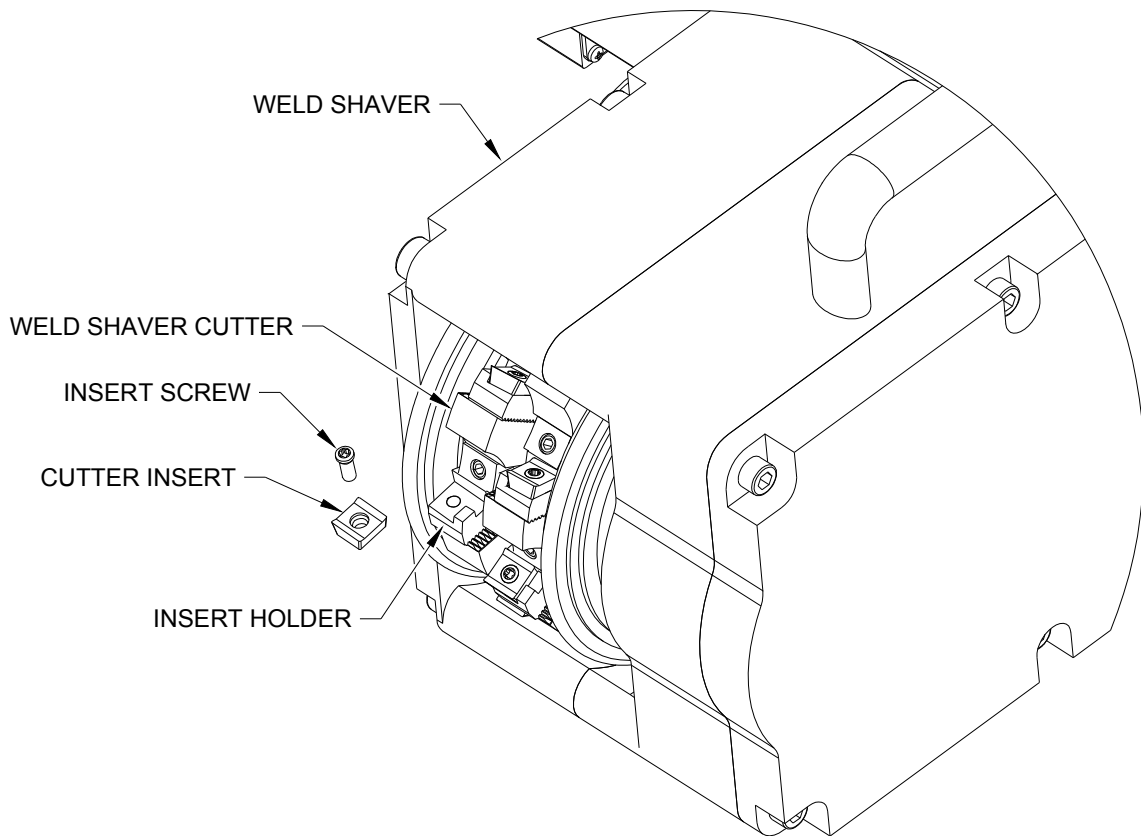

Figure 12: Cutter Insert Replacement
3. If both cutting edges have been used or damaged then the cutter insert must be replaced with a new one. Place the new cutter insert in the insert holder as shown in Figure 12.